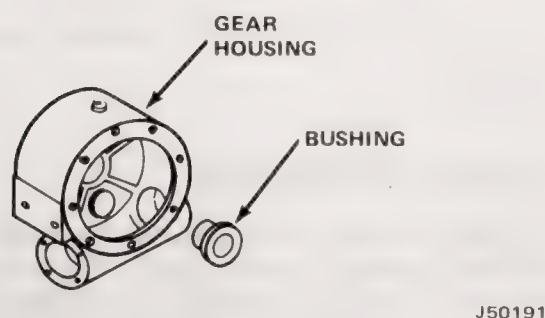

Fig. 5-27 Installing Gear Housing Bushing
(2) Press bushing into gear housing (fig. 5-27). Be sure bushing is pressed into housing straight and flange of bushing is down flat on boss.